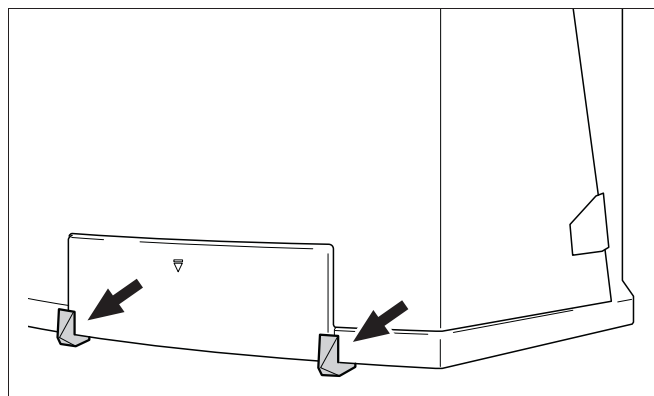

Fig. 6 Removing the transport safety clamps
- Do not remove the transport safety clamps (see fig. 6) from the drawer at this time.
- Remove the transport safety clamps (see fig. 6).